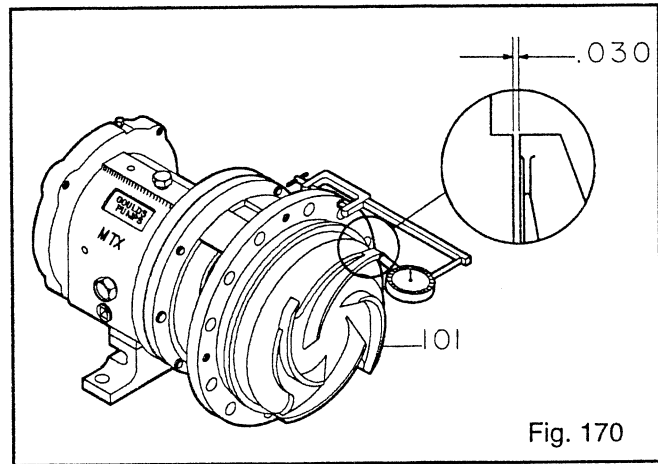

Fig. 170
- Check impeller runout. Check vane tip to vane tip. Total indicator reading greater than 0.005 in. (.13 mm) indicates a problem (Fig. 170).